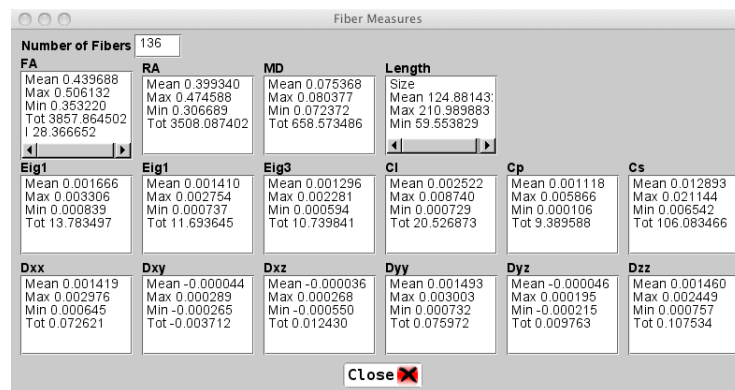

Figure 19: DTI measures computed along the fibers.
The bottom section of the panel is designed to perform measures along fibers. As before, the same measures can be computed, but this time they are computed using the fiber points instead of the voxel values. Values at fiber points will be interpolated using Nearest Neighbor interpolation. A new measure is included here: the length. If active it will show statistics about the fiber tract length. To perform fiber measures, select a fiber tract from the **model data browser** (6), and use the compute button. Similarly to the ROIs measures section, a window with the measure values will show up, as the one in figure 19. The information presented in this window is: